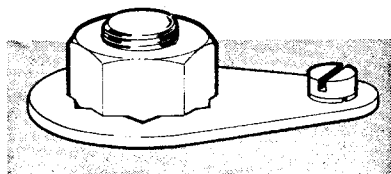

Fig. 6. Locking plate
d. *Locking plate.* This is a thin metal plate fitted over the nut after tightening. The plate is then screwed to the component surface (Fig. 6). As a locking plate may be re-used repeatedly it is a very common system when servicing procedures require frequent removal of a nut.